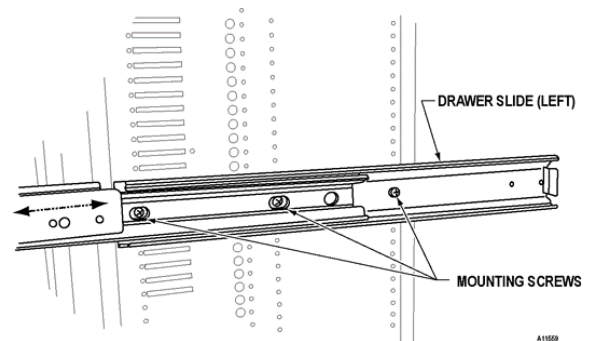

Fig 13
5. Move the slide to expose the fixing screws - Fig 13